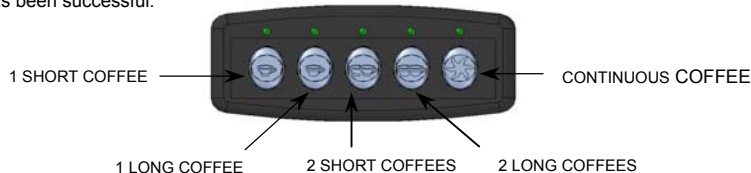

Fig. 8
Press the key 7 pad "*" (continuous coffee)- see Fig. 8 -and keep it pressed for 7 seconds, until all the programming LEDs on the keyboard are simultaneously switching on. Within 5 seconds press any of the pads related to the 4 coffee selections (1 short coffee, 2 short coffees, 1 large coffee, 2 large coffees) which can be programmed. You will see all the green LEDs switch off, except the option you have pressed as well as "*" led.